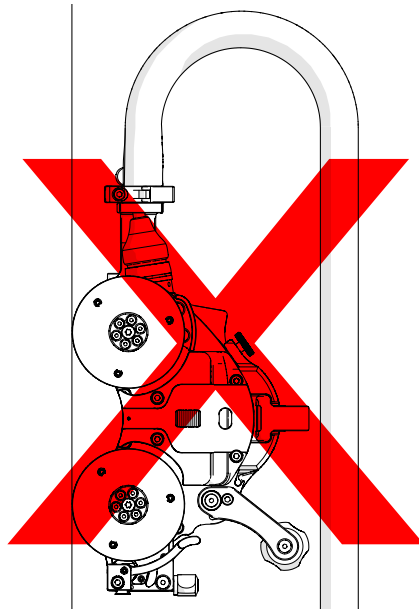

Fig. 94 - Incorrect umbilical use
WARNING! FALLING OBJECT HAZARD. or operating at heights greater than 2 m (6 ft), ensure the umbilical strain relief never points upwards as shown in (Fig. 94). The crawler could fall. **SEVERE INJURY** or **DEATH** could result.
3. Ensure the umbilical strain relief never points downwards during operation (Fig. 94).